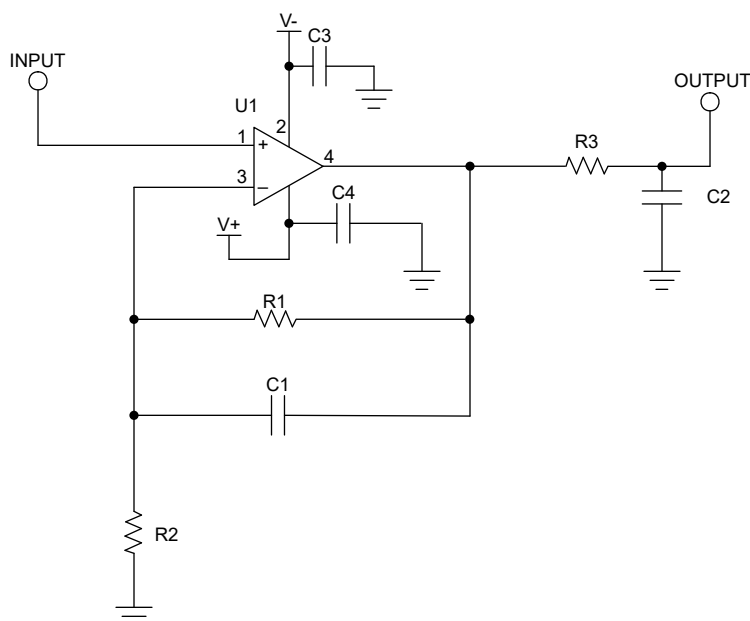

図 7-3. Schematic for Noninverting Configuration Layout Example
Place 0.1 μF bypass capacitors close to the power-supply pins to reduce errors coupling in from noisy or high-impedance power supplies. For more-detailed information on bypass capacitor placement, see 図 7-3.
- Place the external components as close to the device as possible. As illustrated in 図 7-3, keeping R_F and R_G close to the inverting input minimizes parasitic capacitance on the inverting input.